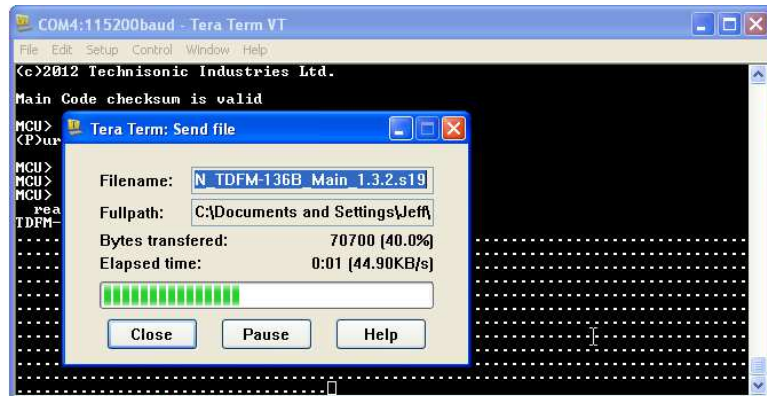

FIGURE 14: Downloading Software
- p) When the terminal program is finished transferring the data, the radio will display a “Done” message. The update is now complete. See Figure14